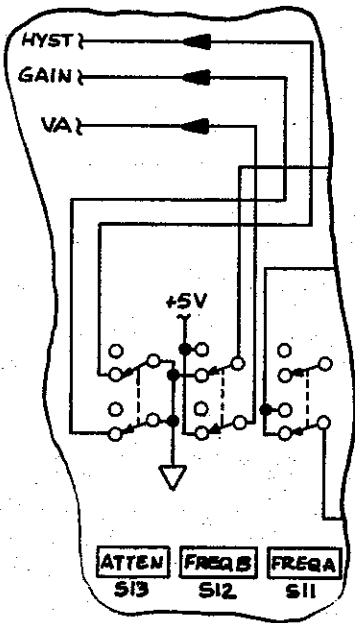

FIGURE 1
- ADD: HYST line, see Figure 1